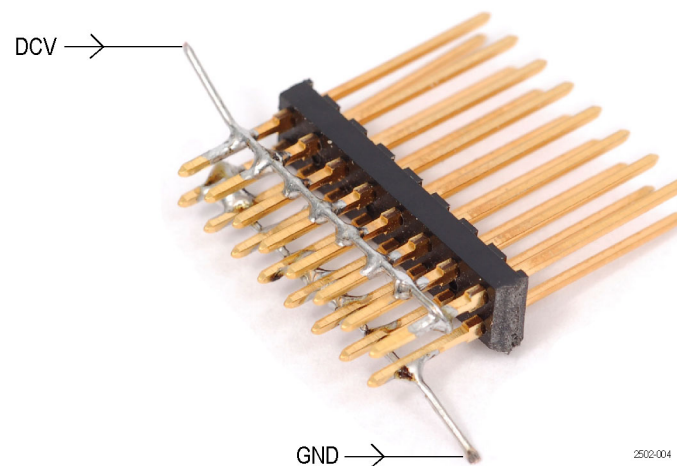

Figure 3: Threshold accuracy test fixture
1. Set the square-pin strip down and lay a wire across one row of pins on one side of the insulator as shown. Leave some extra wire at one end for connecting to a test lead. (See Figure 3.)